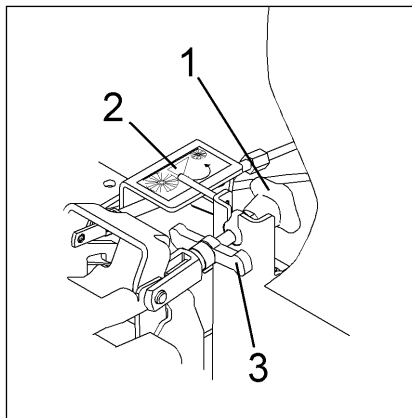

Fig.17
The sweeping track width can be adjusted by the star-shaped knob (Fig. 17/1) as follows:
- Loosen handle (Fig. 17/3)
- Turn star-shaped knob (Fig. 17/1)
- Fix handle (Fig. 17/3)
- Sticker broom adjustment (Abb.17/2)